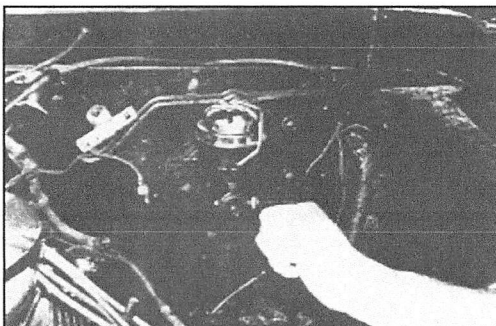
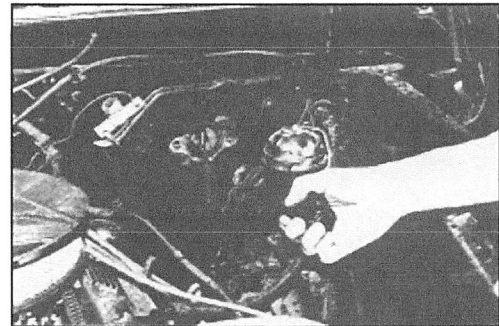
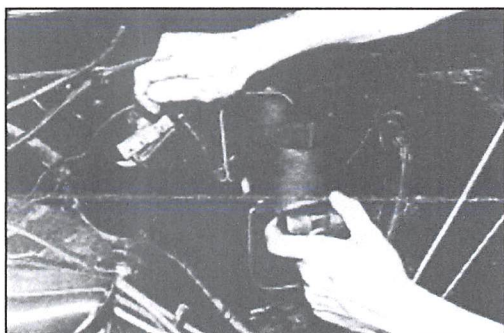

Fig. 9a
Fig. 9b
Fig. 9c
Step 9: Remove the vertical brake lines below the brake light switch (Fig. 9a). Unbolt the master cylinder from the firewall (Fig. 9b). If a power brake booster is to be utilized, it should be installed at this point (prior to new master cylinder). The new master cylinder must be pre-bled before installing (Fig. 9c). After bench bleeding, the master cylinder and the proportioning valve are installed as shown in Fig. 9d.